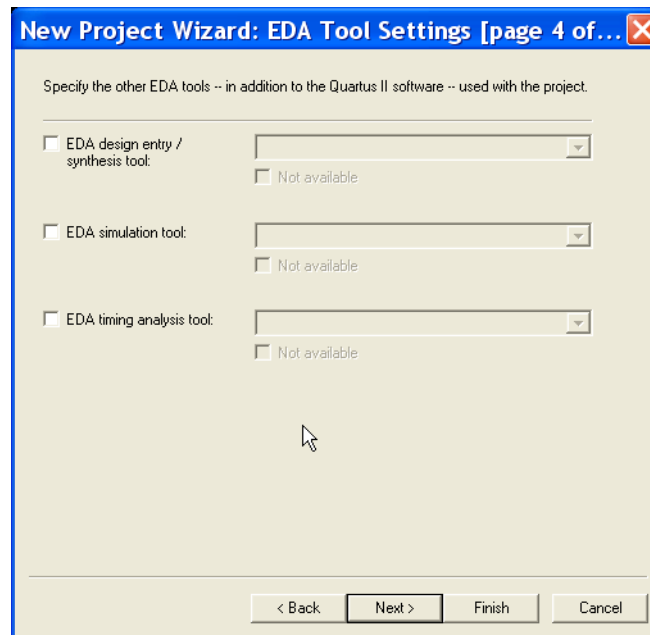

Figure 9. Other EDA tools can be specified.
4. We have to specify the type of device in which the designed circuit will be implemented. Choose Cyclone™ II as the target device family. We can let Quartus II software select a specific device in the family, or we can choose the device explicitly. We will take the latter approach. From the list of available devices, choose the device called EP2C35F672C6 which is the FPGA used on Altera's DE2 board. Press Next, which opens the window in Figure 9.